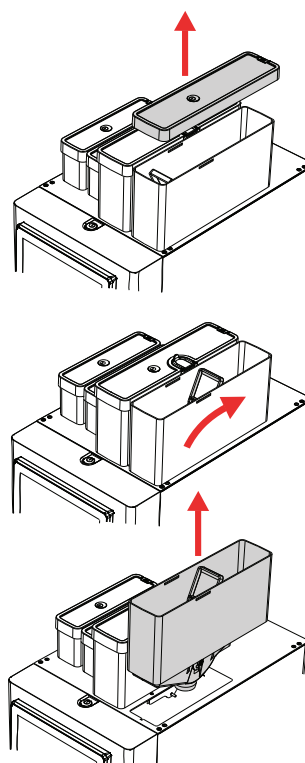

Figure 4-18
1. Remove the bean container lid (using the key) (1) (see figure 4-18).
2. Pull the handle forward to release the bean container (2) (see figure 4-18).
3. Remove the bean container (3) (see figure 4-18).